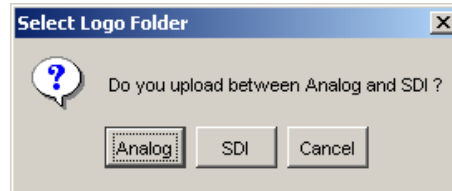

Figure B-6: Select Logo Folder dialog box
3. Click the **PC to SPG** button. The **Select Logo Folder** dialog box appears as shown in Figure B-6.